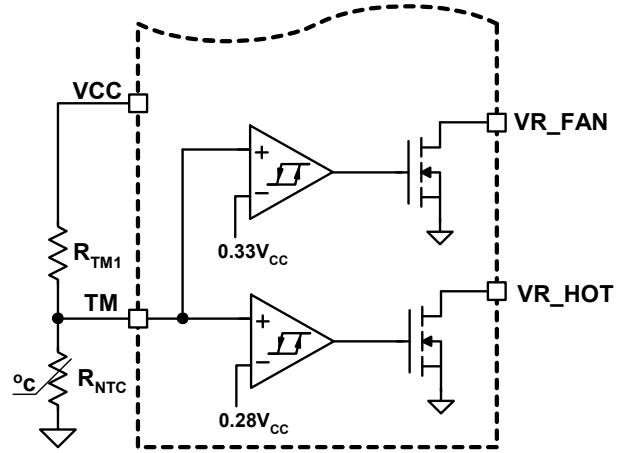
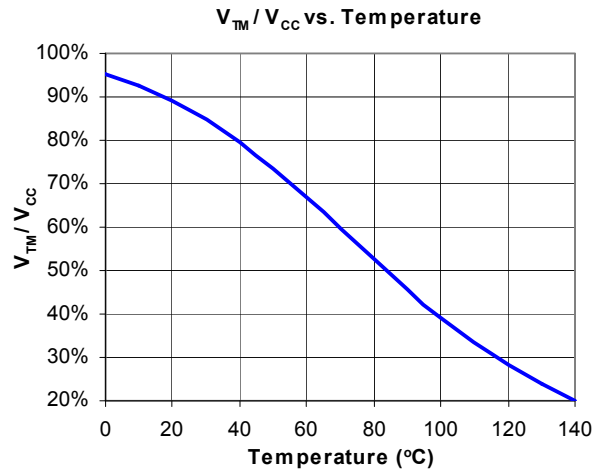

FIGURE 15. BLOCK DIAGRAM OF THERMAL MONITORING FUNCTION
FIGURE 16. THE RATIO OF TM VOLTAGE TO NTC TEMPERATURE WITH RECOMMENDED PARTS
The diagram of thermal monitoring function block is shown in Figure 15. One NTC resistor should be placed close to the power stage of the voltage regulator to sense the operational temperature, and one pull-up resistor is needed to form the voltage divider for TM pin. As the temperature of the power stage increases, the resistance of the NTC will reduce, resulting in the reduced voltage at TM pin. Figure 16 shows the TM voltage over the temperature for a typical design with a recommended 6.8kΩ NTC (P/N: NTHS0805N02N6801 from Vishay) and 1kΩ resistor RTM1. We recommend using those resistors for the accurate temperature compensation.
Based on  $V_{CC}$  voltage, ISL6307B converts the TM pin voltage to a 6-bit TM digital signal for temperature compensation. With the non-linear A/D converter of ISL6307B, TM digital signal is linearly proportional to the NTC temperature. For accurate temperature compensation, the ratio of the TM voltage to the NTC temperature of the practical design should be similar to that in Figure 16.
Depending on the location of the NTC and the air-flowing, the NTC may be cooler or hotter than the current sense component. TCOMP pin voltage can be utilized to correct the temperature difference between NTC and the current sense component. When a different NTC type or different voltage divider is used for the TM function, TCOMP voltage can also be used to compensate for the difference between the recommended TM voltage curve in Figure 16 and that of the actual design. According to the  $V_{CC}$  voltage, ISL6307B converts the TCOMP pin voltage to a 4-bit TCOMP digital signal as TCOMP factor N.
1. Properly choose the voltage divider for TM pin to match the TM voltage Vs temperature curve with the recommended curve in Figure 16.